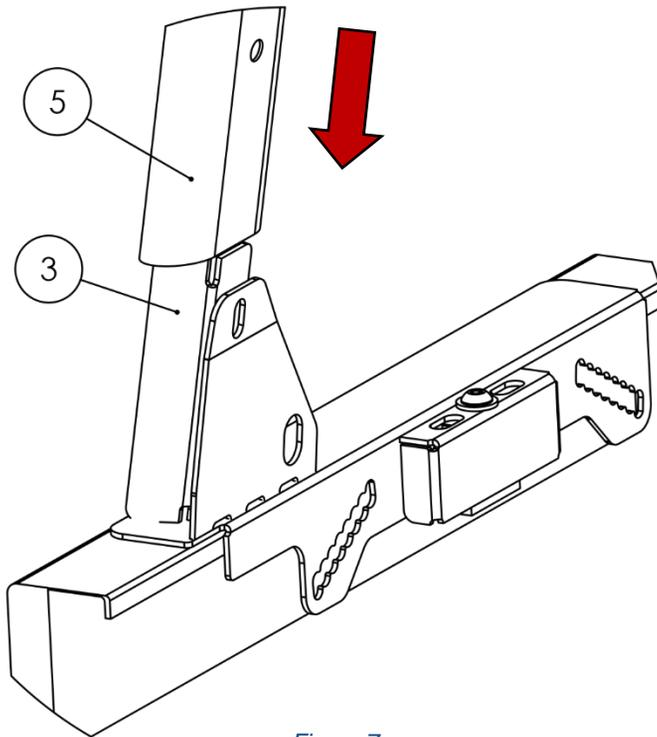

Figure 7
3. **Attach the Legs to the Bases.** Examine the Legs (**Item No. 5**) and locate the pre-drilled holes on the inside of each leg. As shown in **Figure 7**, slide the leg down and align it so that its hole matches with the holes found on the Base Rail Assembly (**Item No. 3**).